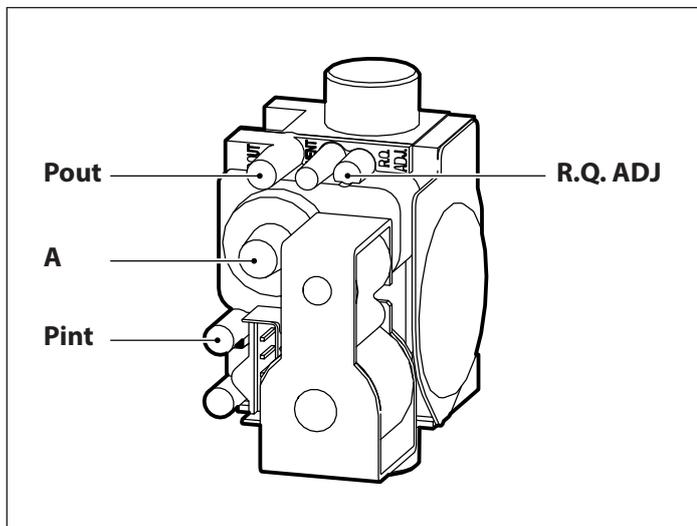
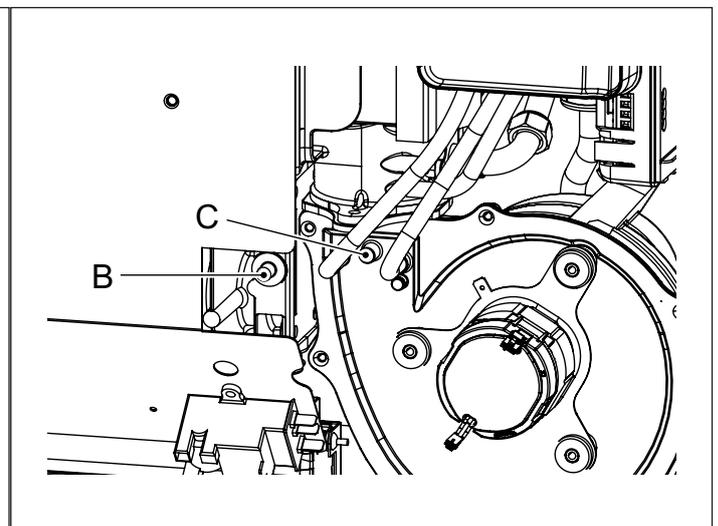

Fig. 31
Fig. 32
- With the equipment working at minimum power, connect the pressure gauge positive terminal to the pressure measurement point **Pint** of valve (Fig. 31) and the negative terminal to the pressure measurement point **C** on fan worm screw (Fig. 32), after loosening the blanking caps. Check the pressure between the two points.
- If necessary, adjust the offset by working screw A (Fig. 31) after loosening the lock screw.
Remove the brass cap **B** and connect to the relevant socket onboard the equipment. Check that measured CO₂ corresponds to the values in the technical specifications table or on the nameplate hung to the anti-irradiation metal sheet. If necessary, adjust CO₂ content by working screw **A** with equipment at minimum power and working screw **R.Q. ADJ** with equipment at maximum power (Fig. 31).